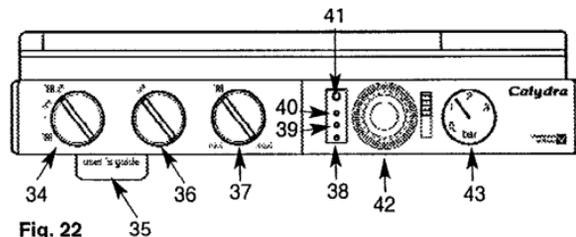

Fig. 22
- 1) Turn selector switch (34 fig. 22) to position . The green "power on" indicator  will light.
- 1) Turn selector switch (34 fig. 22) to position  . The green "power on" indicator  will light.
- 1) If heating is required without the need for TSS® hot water storage, turn the selector switch (34 fig. 22) to position . For example, this feature would be used if the house is to remain heated without anyone using the hot water.
**Note:** If the boiler has been turned off for some time the first attempt to light it may result in a lockout . If this happens press the reset button (41 fig. 22) and the boiler will light.
- 1) Turn the selector switch (34 fig. 22) to the off position .